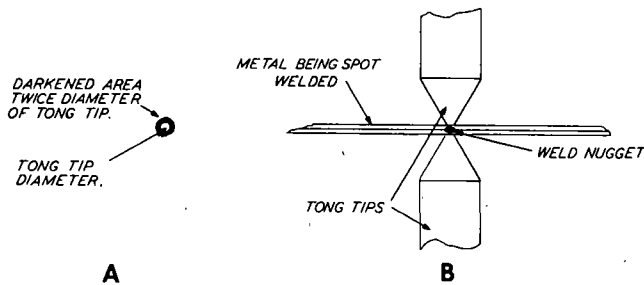

FIGURE 3 - SPOT WELDING PROCEDURE
- A. After the metal is properly positioned, position the Spot Welding Machine or the metal so that the tong tips will come together gripping the metal where it is to be spot welded. Continue depressing the operating lever until it actuates the micro-switch. Current will then flow through the tongs and tong tips until the timer automatically times out and opens the welding current circuit. Do not release the operating lever until the timer has timed out. Releasing the operating lever with the welding current circuit energized will cause excessive burning of the tong tips. Setting of the weld control knob for the length of the weld cycle is strictly a trial and error procedure. Illustrations in Figure 3 will help in determining the correct setting of the timer. After one spot weld is made, examine the darkened area around the spot weld. (Figure 3A) The diameter of this darkened ring should be approximately twice the diameter of the tong tip. For example, if the tong tip is 1/8 inch in diameter the darkened ring should be approximately double or 1/4 inch in diameter. Another thing to examine is the weld nugget and this can be done by spreading the two pieces of metal apart. In comparison to the size of the tong tips, the weld nugget should be in the